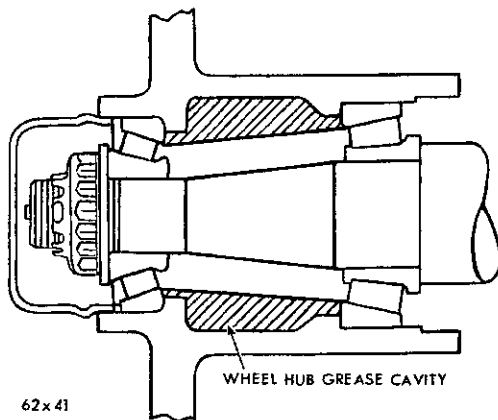

Fig. 8—Fill Cavity with Wheel Bearing Lubricant
(1) If the bearing cups were removed, start the new cups into the hub evenly, driving them flush with the hub using a soft steel block and hammer. Seat the cups against the shoulders in the hub, using a soft steel drift and hammer.
(2) Fill the hub cavity with wheel bearing lubricant, as shown in Figure 8. Lubricant should be even with inner diameter of bearing cups.
(3) Force lubricant between bearing cone rollers or repack with a suitable "Bearing Packer".
(4) Install the inner cone and a new seal with the lip of seal facing inward. Using Tool C-3893, drive the seal flush with the end of the hub. The seal flange may be damaged if the tool is not used.
(5) Clean the spindle and install the wheel, hub and drum.
(6) Install the outer bearing cone, flat washer and adjusting nut.